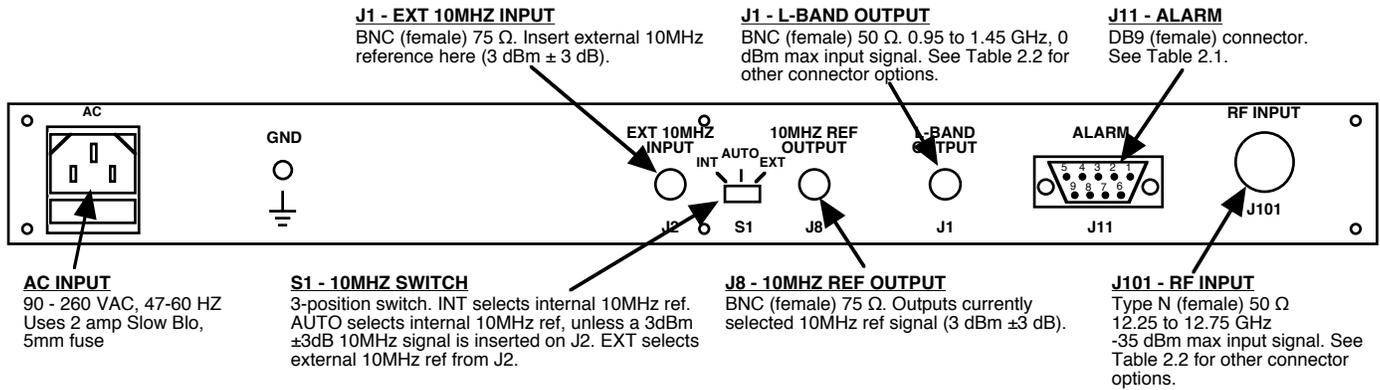

FIGURE 2.1 2116-126 Rear Panel I/O's
2.2 Rear Panel Input/Output Signals - Figure 2.1 shows the input and output connectors on the rear panel.
1. Connect a -55 dBm to -35 dBm signal to RF INPUT, J101 (Figure 2.1).
5. Select either INT (for internal 10MHz ref), AUTO (for internal 10MHz ref UNLESS an external 10MHz, 3 dBm signal is connected to J2), or EXT (for external 10MHz, 3 dBm ref that is inserted at J2) on rear panel switch S1 (Figure 2.1).
7. Check that a 10MHz, 3 dBm \pm 3 dB signal is present at the 10MHz REF OUTPUT (J8) (Figure 2.1).